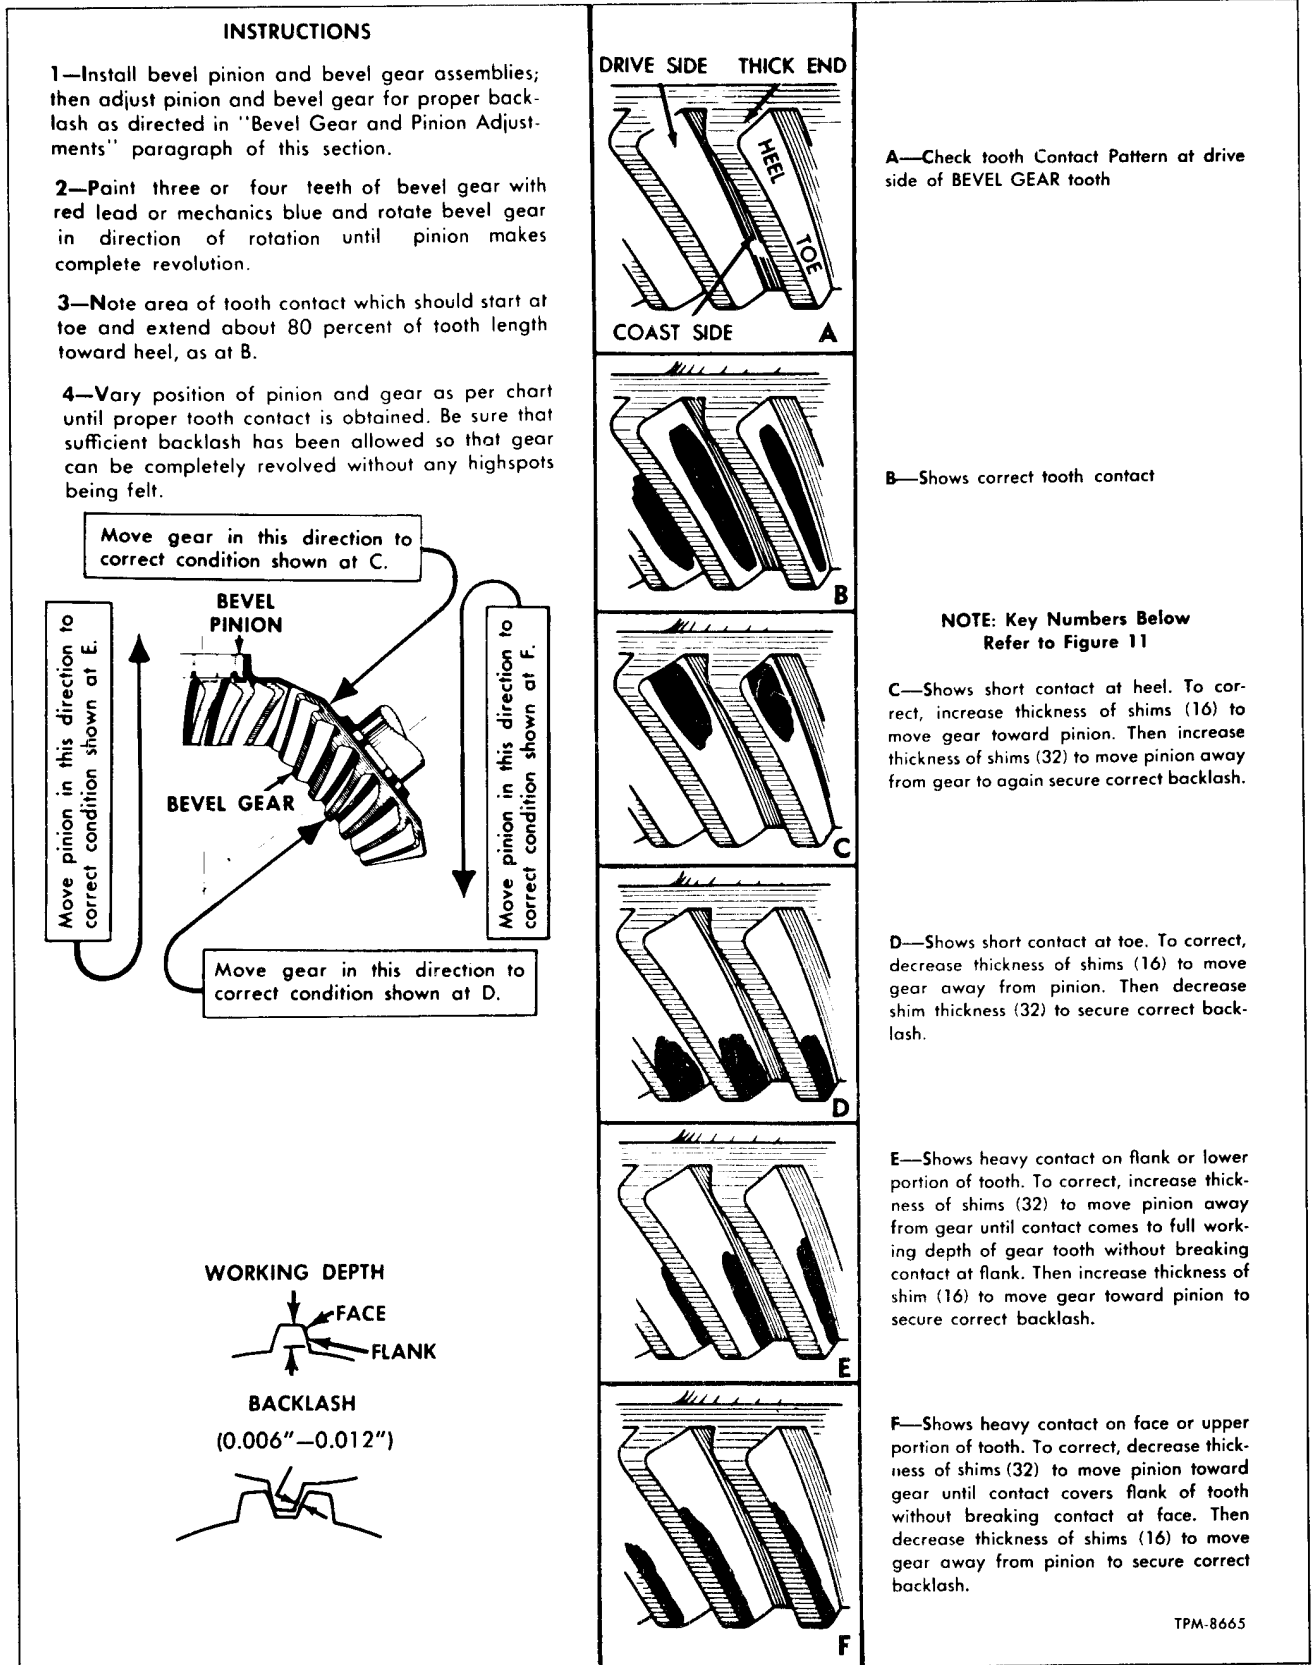

Figure 16—Gear Tooth Contact Chart
rotating gears to produce a clear contact impression at drive side of bevel gear teeth (fig. 16), observe contact area through filler plug hole. Use flashlight to illuminate gears.
a. Tooth contact impression should start at toe of tooth and extend back about 80% of tooth length toward heel on drive side of tooth. Contact should be distributed evenly over flank of tooth indicating center of contact below pitch line. Refer to diagrams "A" and "B" in figure 16.
b. If tooth contact is short and too far out on heel of tooth (diagram "C" figure 16), increase thickness of shims (16) between bearing retainer (17) and housing (27), moving gear (12) toward pinion (1). Restore backlash by increasing shims (32) between bearing retainer (3) and housing (27).
c. If tooth contact extends back from toe appreciably less than 80% of tooth length (diagram "D" fig. 16), move gear (12) away from pinion (1) by decreasing shims (16). Restore backlash by de-
d. If contact is low on flank of tooth (see diagram "E" fig. 16), move pinion (1) away from gear (12) by increasing shims (32). Restore backlash by increasing shims (16).
e. If contact is high on face of tooth (diagram "F" fig. 16), move pinion (1) toward gear (12) by decreasing shims (32). Restore backlash by decreasing shims (16).
5. After tooth contact and backlash have been adjusted, install bearing cap assembly (25) using new gasket (18). Install oil filter assembly (23) using new gasket.